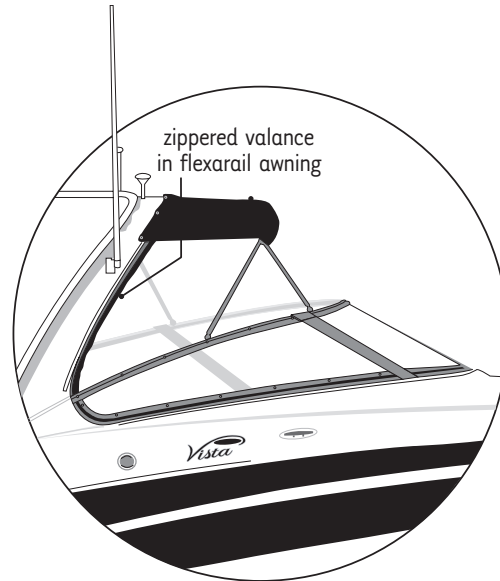

Figure O-4: Installing Valances
- 1) Valances - small areas of canvas curtain - are used to attach larger canvas pieces to the vessel. There are valances for the bimini side curtains, camper top and camper side curtains. See Figure O-4.